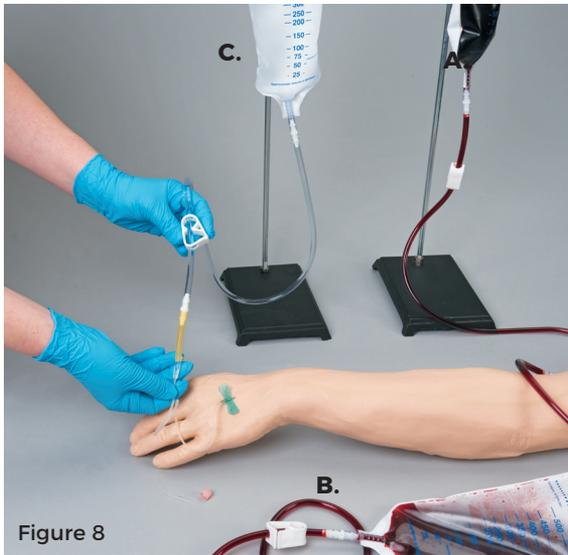

Figure 8
8. Open the clamp on the infusion solution or fluid supply bag C. Proof of proper procedure will be evidenced by the flow of fluid from the infusion solution or fluid supply bag C. (See Figure 8.)